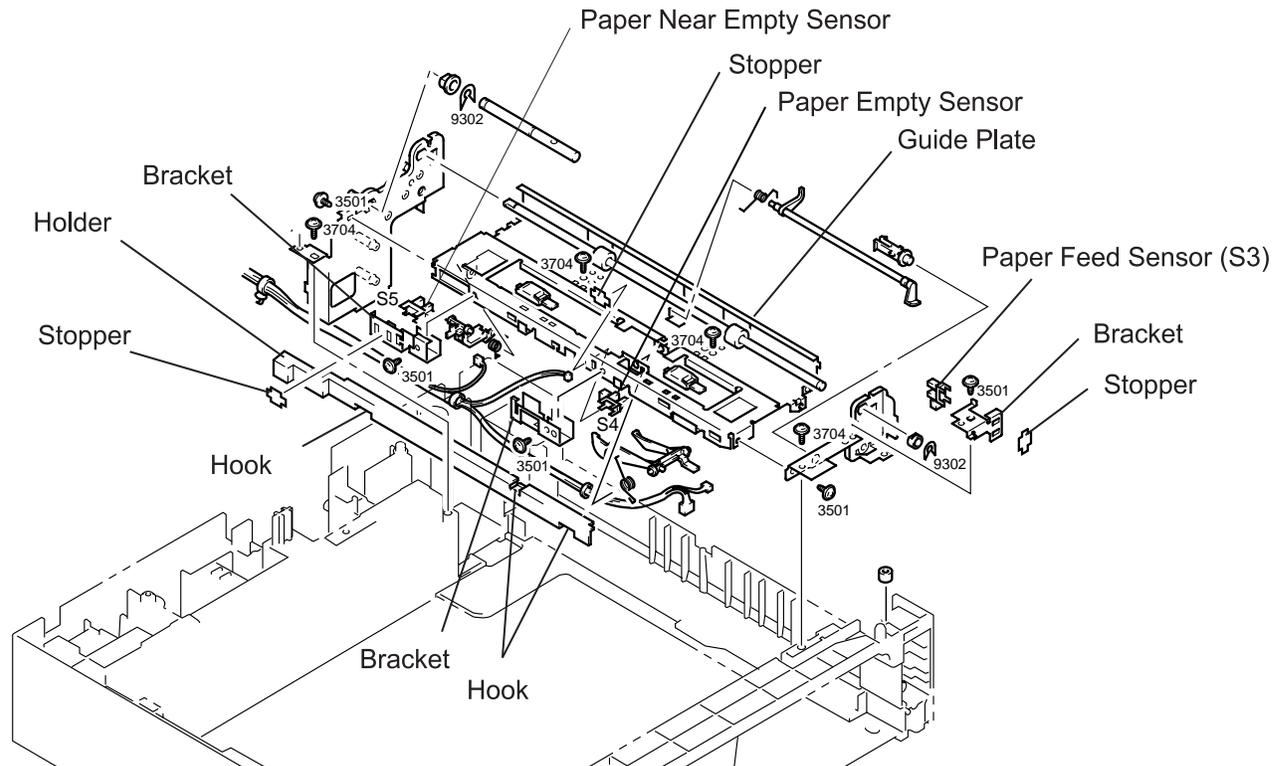

Figure 1-8. Removal of the Paper Empty / Paper Near Empty / Paper Feed Sensors
1. Release three hooks attaching the holder to the guide plate and remove the holder. (See Figure 1-8.)
2. Remove the screw (3501) securing the paper empty sensor bracket to the guide plate. (See Figure 1-8.)
3. Remove the stopper for the Paper Empty Sensor and remove the sensor. (See Figure 1-8.)